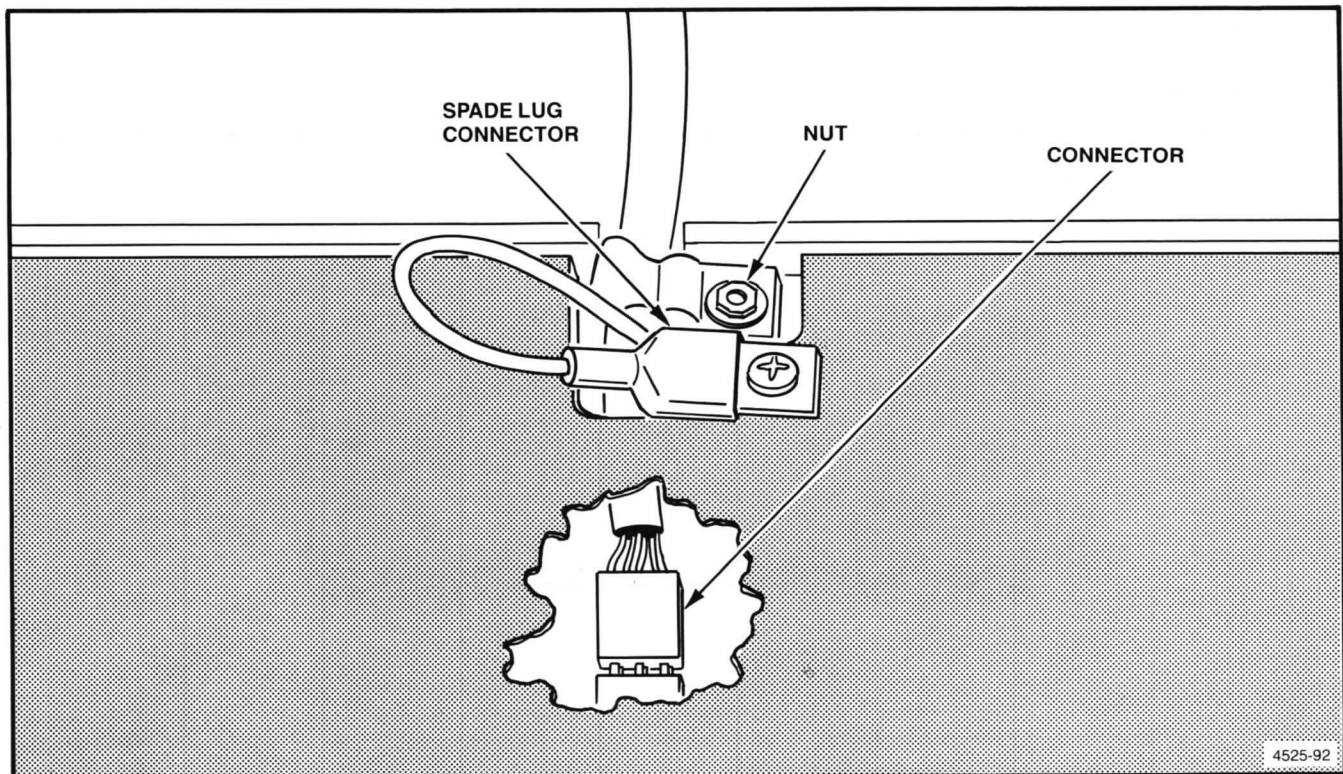

Figure 6-16. Disconnecting the Keyboard Cable.
8. Remove the 1/4" nut and lock washer in Figure 6-16, and remove the cable's strain relief strap.